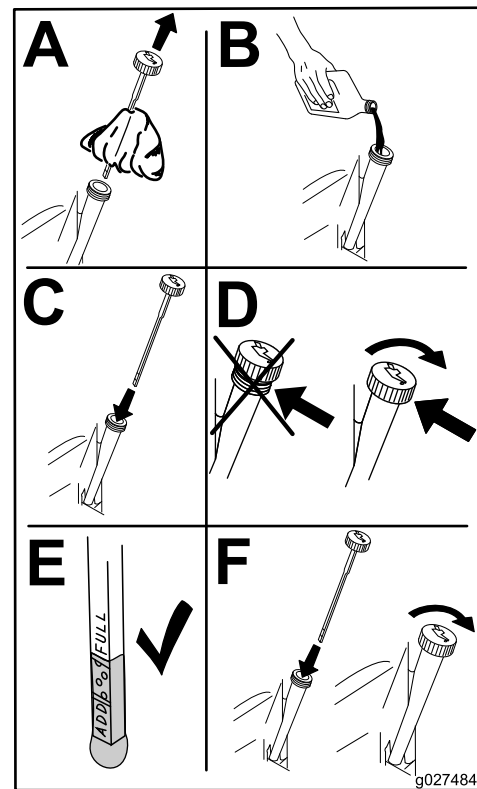

Figure 34
6. Slowly pour approximately 80% of the specified amount of oil into the fill hole (Figure 34).
7. Check the oil level; refer to Figure 34.